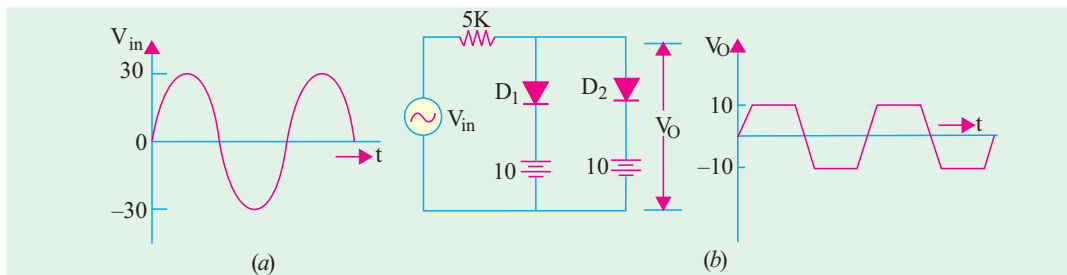

Fig. 52.22
**Example 52.14.** Sketch the waveform of the output voltage  $V_0$  of the circuit shown in Fig. 52.22 (a).
It is clear that output voltage  $V_0$  would be clipped during both the positive and negative half-cycles as shown in Fig. 52.22 (b).